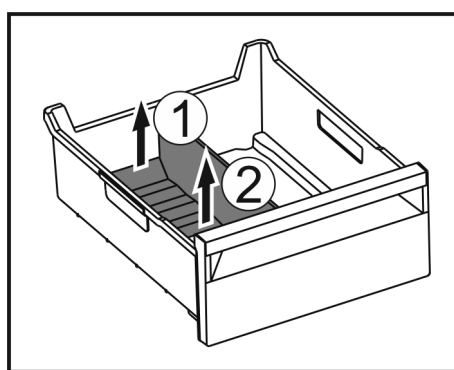

Fig. 173
- Lift the rear part of the ice compartment divider. Fig. 173 (1)
- Remove the ice compartment divider upwards. Fig. 173 (2)